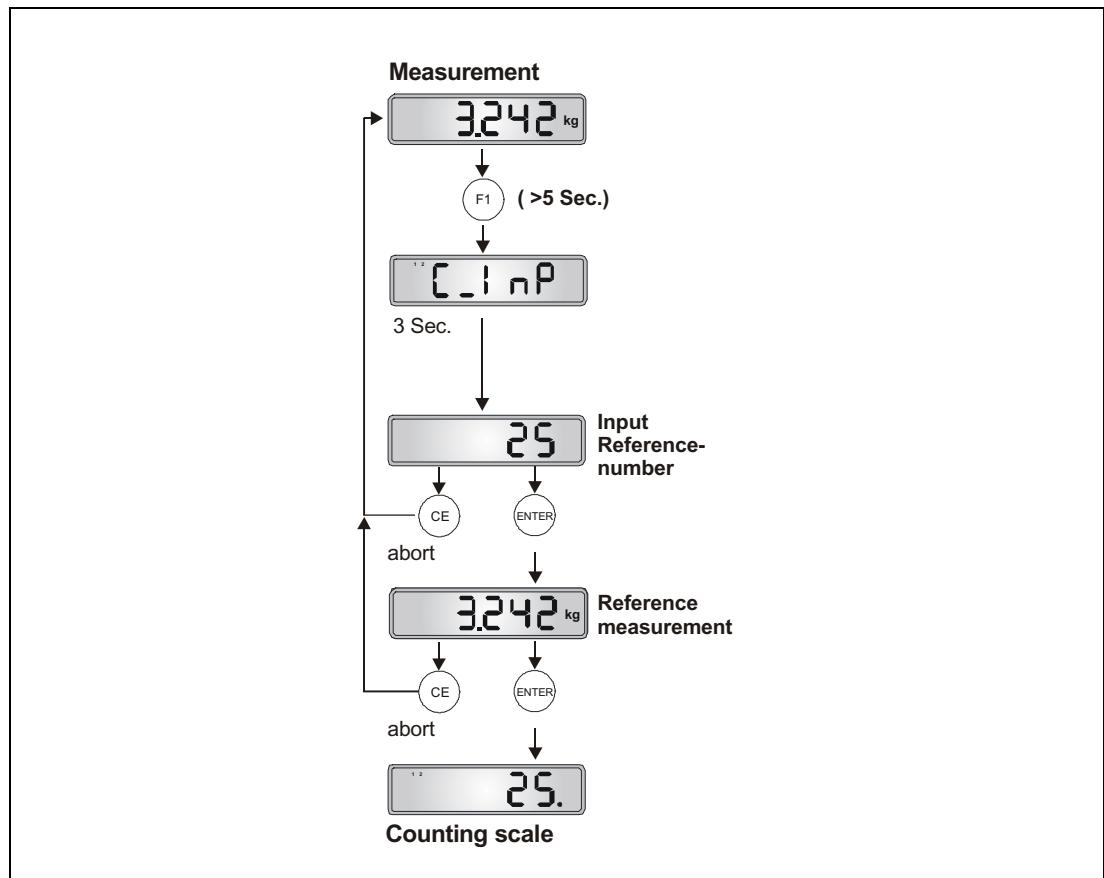

Fig. 14-1: Setting the counter scale (reference measurement)
3. Operate the device as shown in Figure 14-1 (The reference number of pieces is input in the same way as described in Section 8.4.2 (page 39), numeric input). Numeric input is concluded with „ENTER“ and the reference measurement is displayed (= weight of the parts put on). At standstill, store the reference measurement with the „ENTER“ key and the device then goes to counting scale mode.